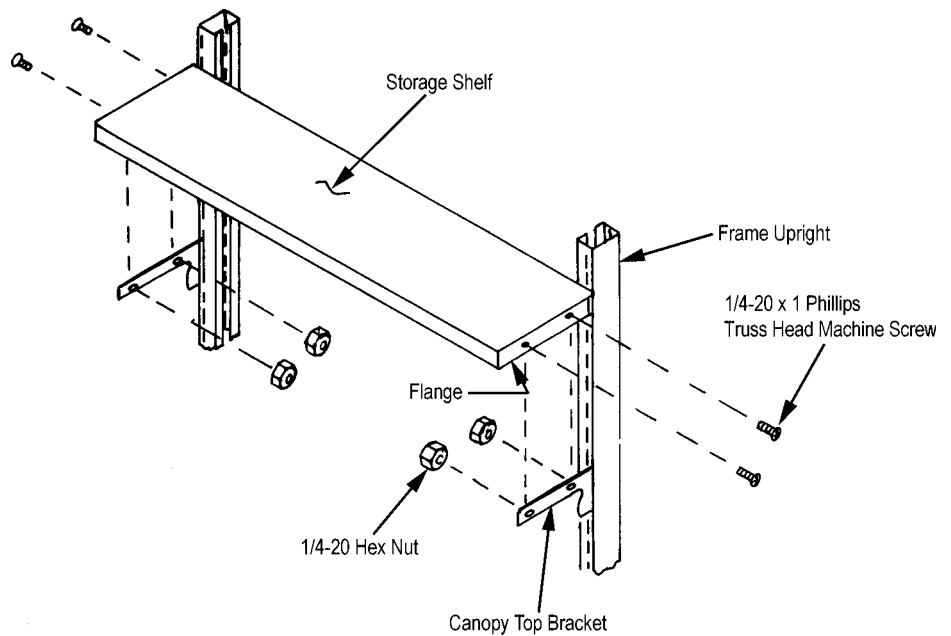

FIGURE 25
2. Set the storage shelf on the brackets, with the brackets inside the shell flanges. Secure the storage shelf to the canopy top brackets using 1/4-20 x 1 Phillips truss head machine screw and 1/4-20 hex nuts. See Figure 25.